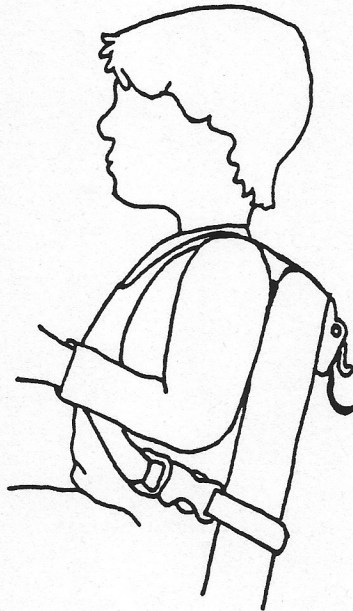

Figure 8
- c. Mark the areas where the cam-lever buckles will be mounted by holding the Custom Trunk Support in proper position against the individual's chest. Pull the top straps to the "back" of the seating system and make sure that the buckles will be mounted at the same angle as each of the top Custom Trunk Support straps (See Figure 8).